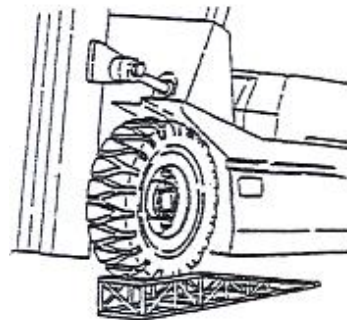

Figure 2-38
- (5) After confirming that the fork is removed from the outer mast, reverse the forklift (② in Figure 2-38).
- (6) Replace the main roller